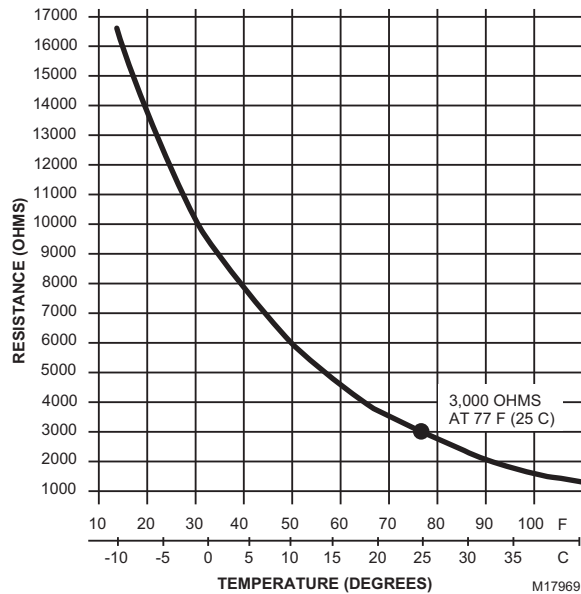

Fig. 4. C7046C Sensor resistance vs. temperature.
3. Assure nominal resistance measurements are in accordance with the resistance/temperature curves shown in Fig. 4.